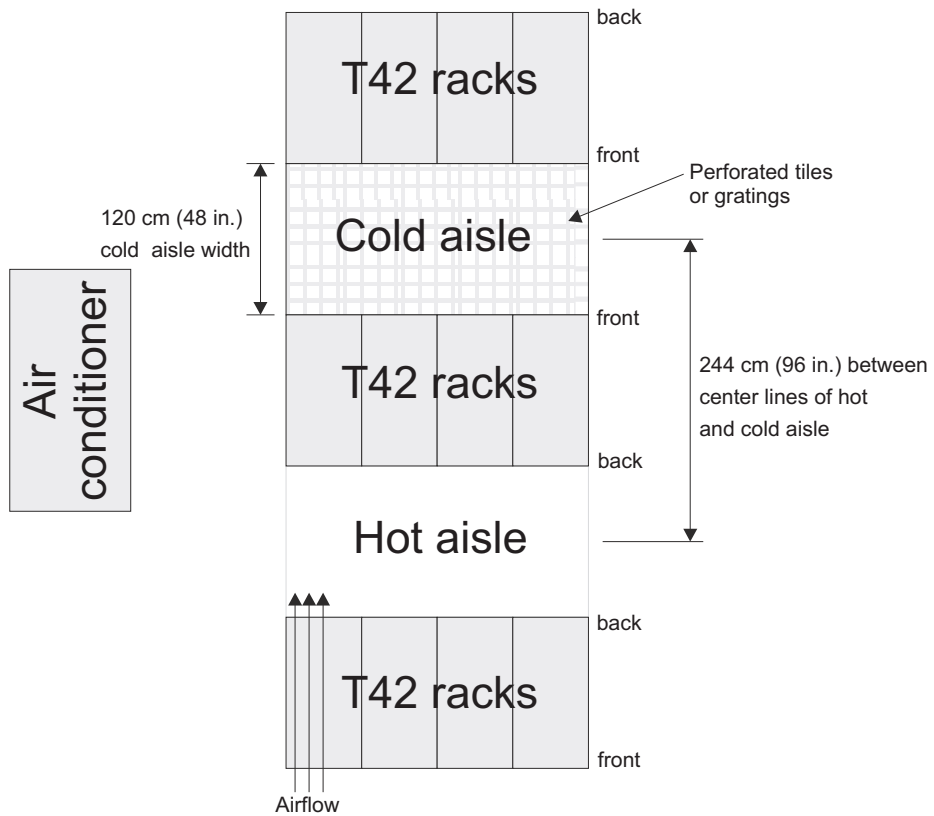

Figure 13. Example of cold aisle/hot aisle rack configuration
- Air enters at the front of the rack and leaves at the back. To prevent the air that is leaving the rack from entering the intake of another piece of equipment, you must position the racks in alternate rows, back-to-back and front-to-front. This arrangement is known as “cold aisle/hot aisle” and is shown in Figure 13 on page 18.
- Where racks are in rows front-to-front or back-to-back, gaps of at least 122 cm (48 in.) must separate the rows across the cold aisle (see Figure 13 on page 18).